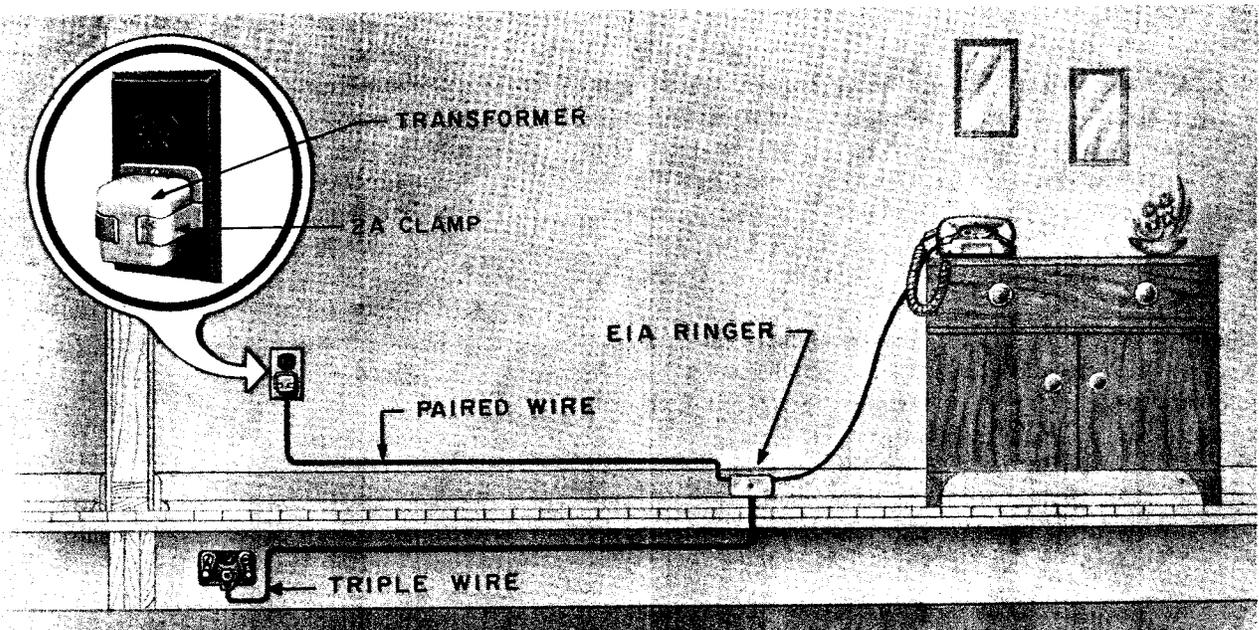

Fig. 1 — Typical Installation of 701B Telephone Set
1.01 This section covers the installation of 701-, 702-, and 711-type telephone sets. Typical installations are shown in Fig. 1, 2, and 3. Connections are shown in the appropriate section for each type telephone set.
2.01 A 105- to 120-volt ac receptacle is required for the dial light transformer. This receptacle should be on a circuit that is not controlled by a switch. A 2012A transformer should be used for a single set. A 2A clamp (Fig. 1) is available to secure this transformer to the service outlet.